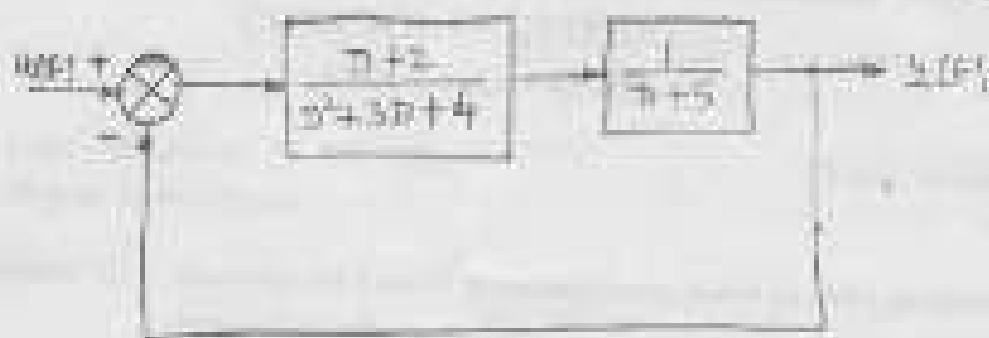

Fig 8(b)
- b) Determine the state space model and computer diagram for feedback control system shown in Fig 8(b) [8]